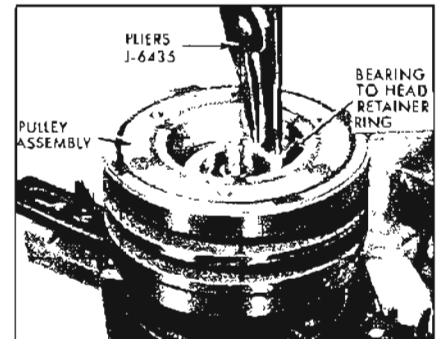

Figure 11-104—Removing or Installing Bearing to Head Retainer Ring
2. Remove pulley assembly retainer ring, using J-6435, No. 26 Truarc Pliers. See Figure 11-104.